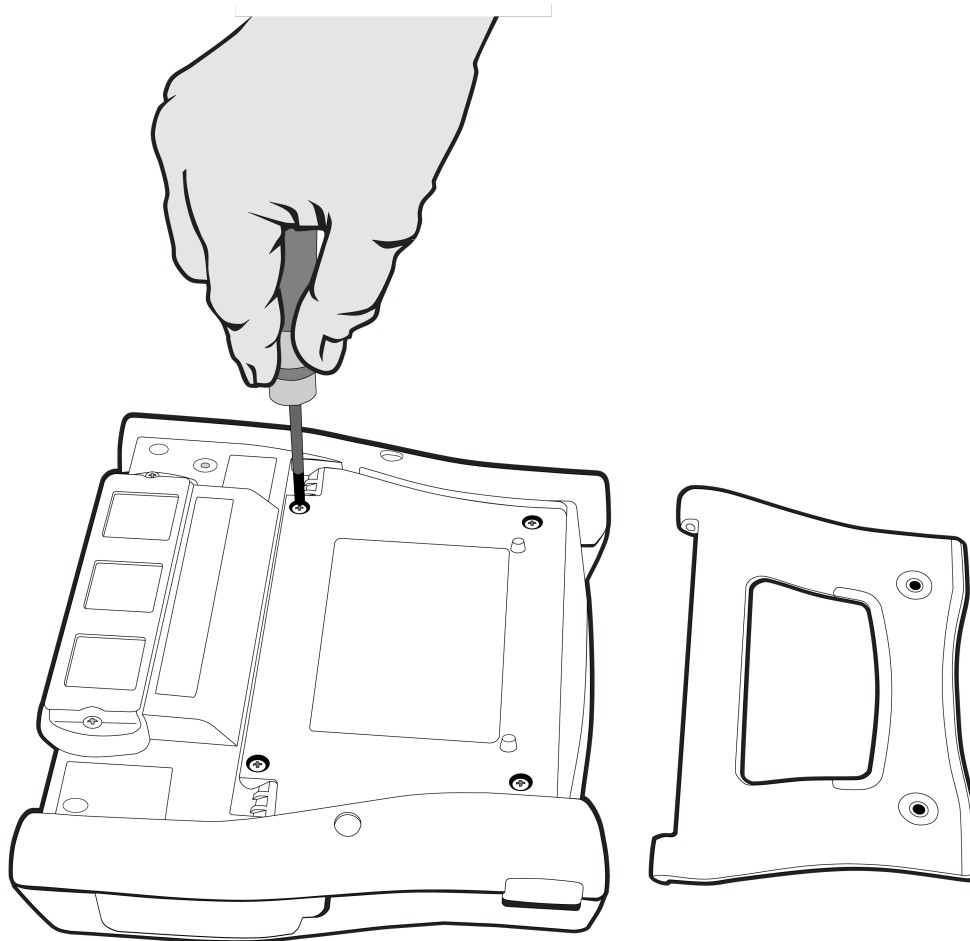

Figure 186: Replacing the battery pack
3. Unscrew the four screws securing the battery compartment cover (see Figure 186: Replacing the battery pack).